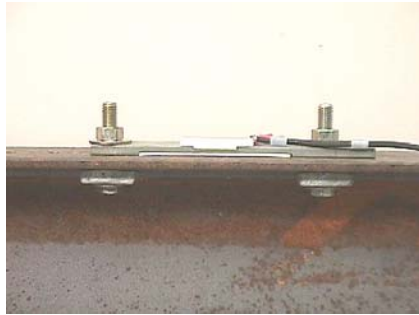

Fig 2.7 Hardware installed
8. Install the sensor using the hardware provided (Fig 2.7):